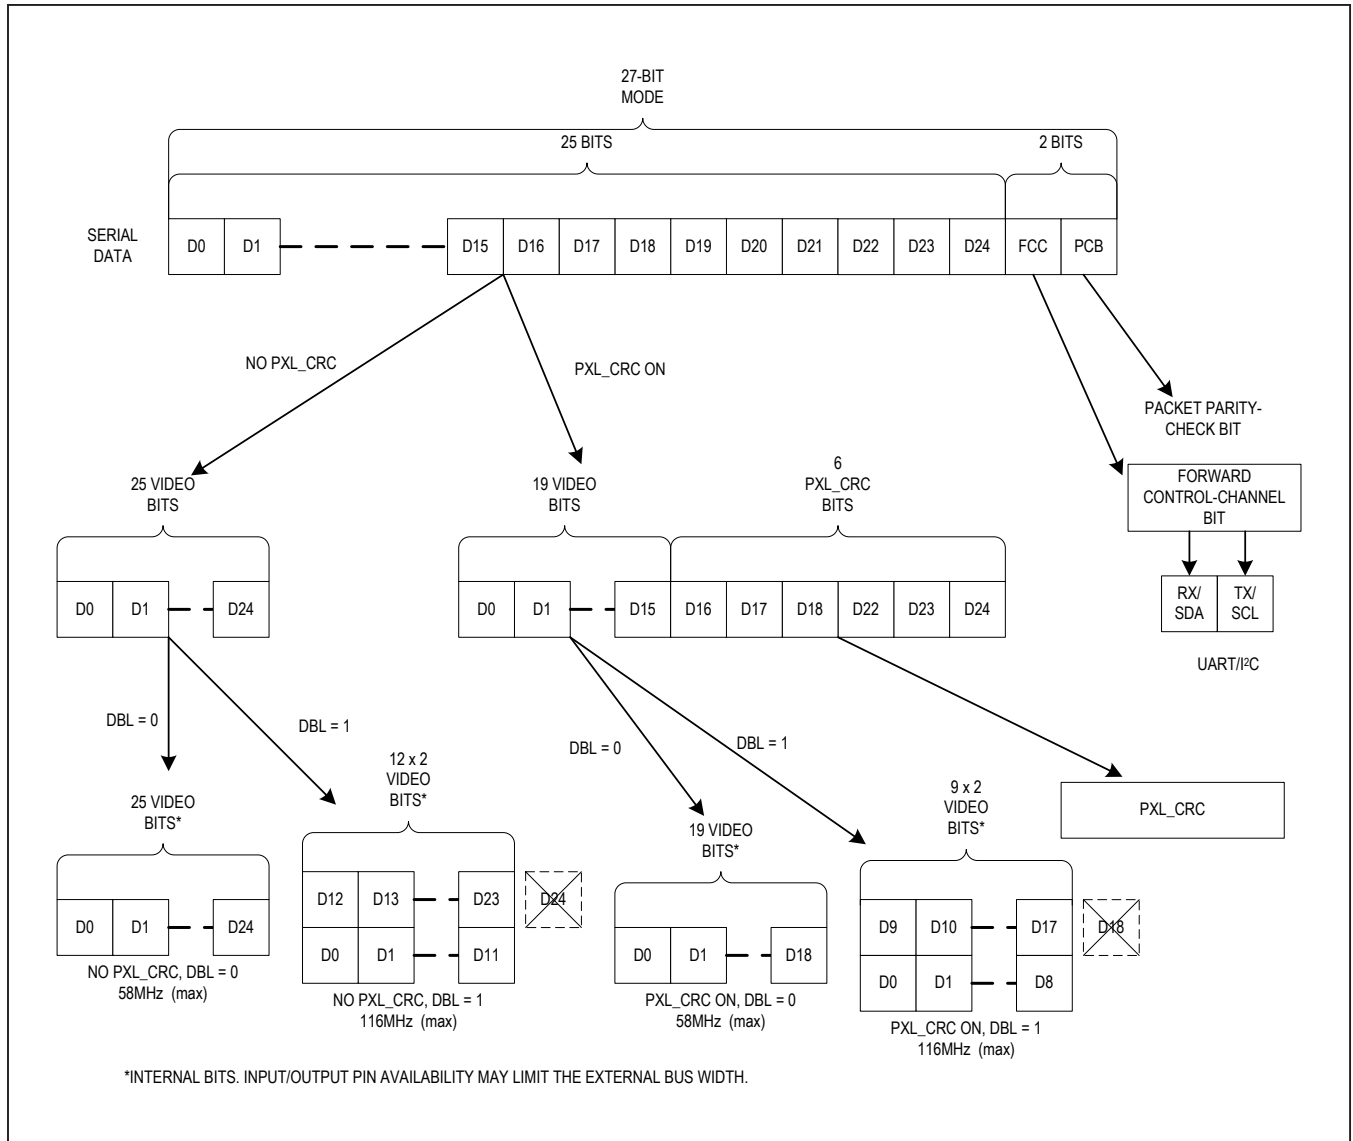

Figure 14. 27-Bit High-Bandwidth Mode Serial-Data Format
- 27-Bit High-Bandwidth Mode (Figure 14)